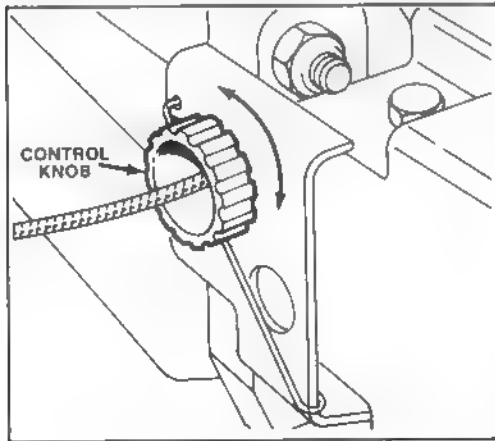

Figure 19
2. **ADJUSTMENT** (Fig. 19) – Rotate control knob clockwise 1/2 turn if mower does not self-propel. If mower creeps forward, rotate knob 1/2 turn counterclockwise to loosen belt.